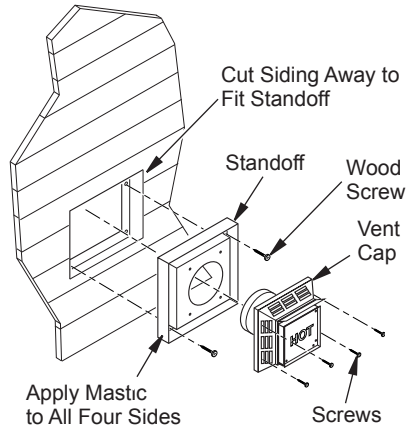

**Figure 10 - Installing Horizontal Vent Cap (Noncombustible Exterior)**
*Note: Four wood screws provided should be replaced with appropriate fasteners for stucco, brick, concrete or other types of sidings (see Figure 10).*